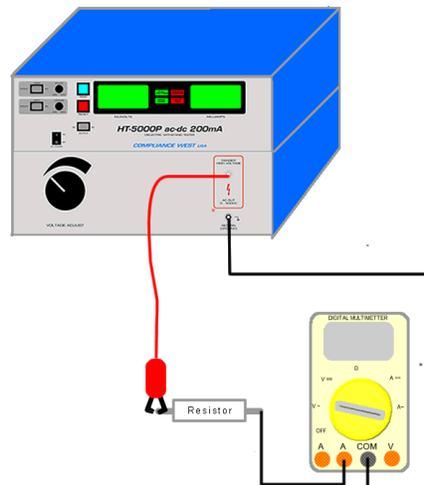

Figure 4-2. Current Measurement with 1000W High Voltage Resistor.
3. Connect the output of the HT-5000P ac/dc 200mA through a 1000 watt high voltage load resistor (25k Ω) in series with an external current meter returning to the Return jack on the front panel of the HT-5000P ac/dc 200mA as is shown on figure 4-2.
3. Connect the output of the HT-5000P ac/dc 200mA unit through a 1000 watt high voltage load resistor (25k Ω) in series with an external current meter returning to the Return jack on the front panel of the HT-5000P ac/dc 200mA as is shown on figure 4-2.